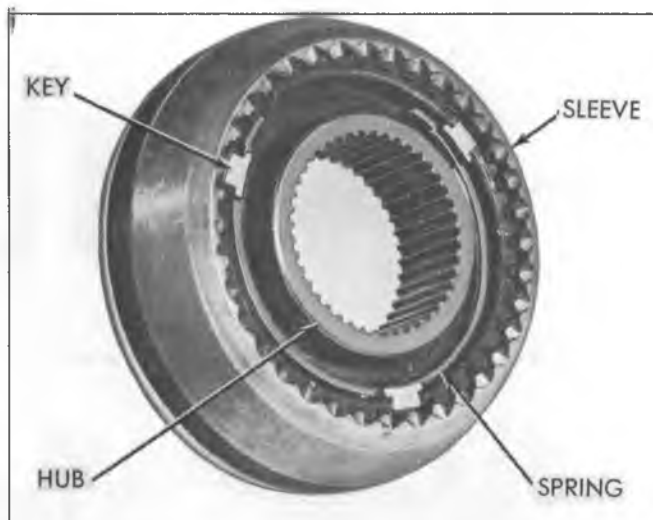

Fig. 5G--Synchronizer Assembly
- Place the three keys and two springs in position (one on each side of hub), so all three keys are engaged by both springs (fig. 5G). Slide the sleeve onto the hub aligning the marks made before disassembly.